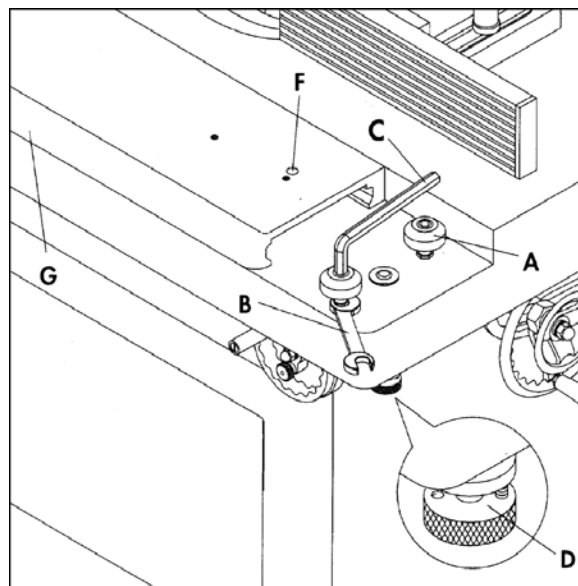

Figure 24
There are six adjustable eccentric rollers (A, Figure 24) on the sliding table. Wherever the sliding table is unstable or not traveling in line, adjust the sliding table as follows:
1. Loosen the roller (A, Figure 24) with a hex wrench (C, Figure 24).
2. Use open end wrench (B, Figure 24) to rotate the rollers as needed.
3. Lock the setting of the roller by using the hex wrench (C, Figure 24).
To operate the sliding table (F, Figure 24) pull down on the knurled knob (D, Figure 24) and rotate it 180 degrees until the opposite hole engages the pin. The sliding table can then be moved back and forth.
To lock the sliding table in centered position, move the sliding table flush with the main table. Pull down on the knurled knob (D, Figure 24) and rotate it 180 degrees until it engages the pin.